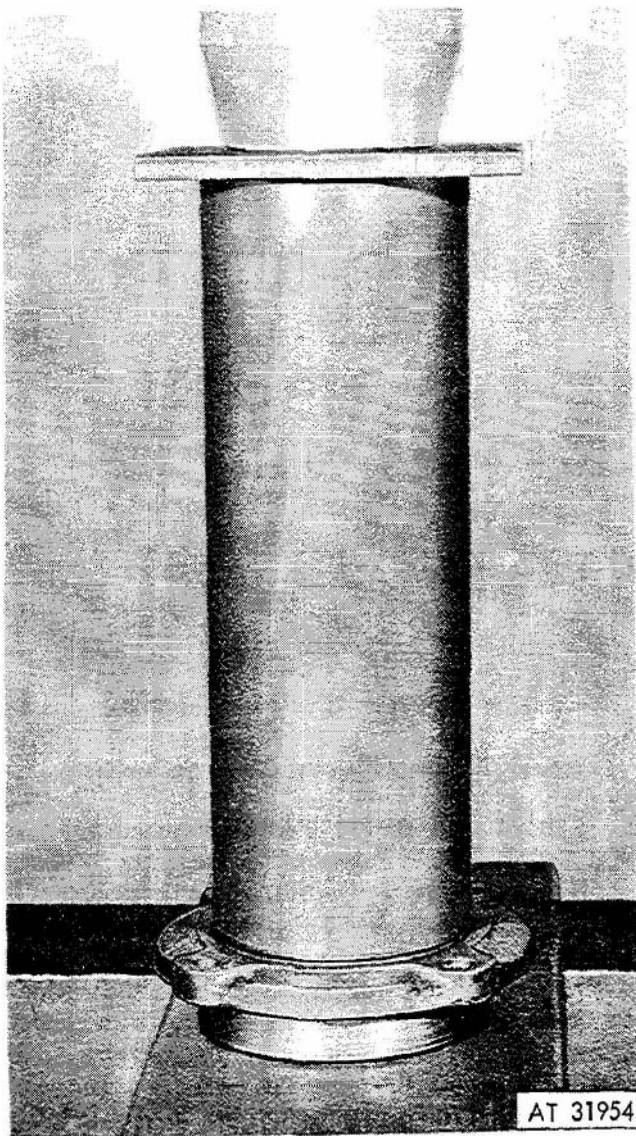

Figure 3-158. Pressing seal into thru-shaft retainer.
(21) Pack seal (5, fig 3-141) with grease(GAA) and press seal into retainer (8) as shown in figure 3-158.